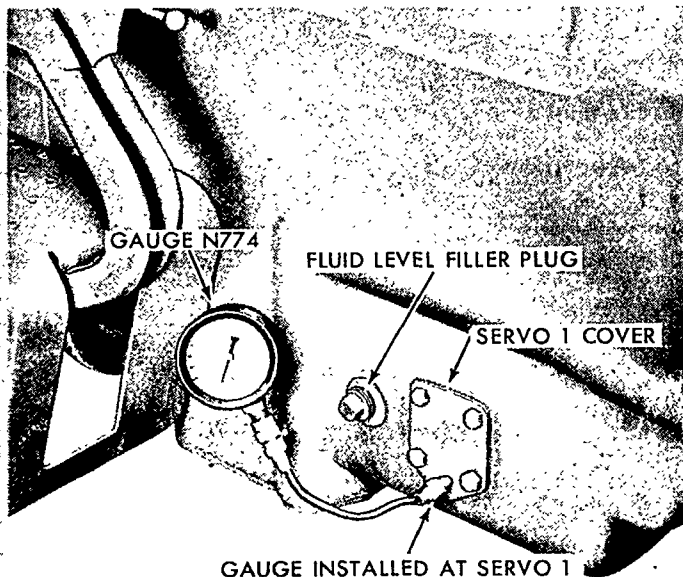

Figure 27
2. Remove the hex head plugs from Servos 1, 2, and 3, and install the pressure gauges. See Figures 27 and 28.